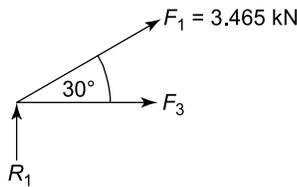

Figure 6.32
Consider next joint (2), as this joint now has two or less unknown forces; see Figure 6.32.